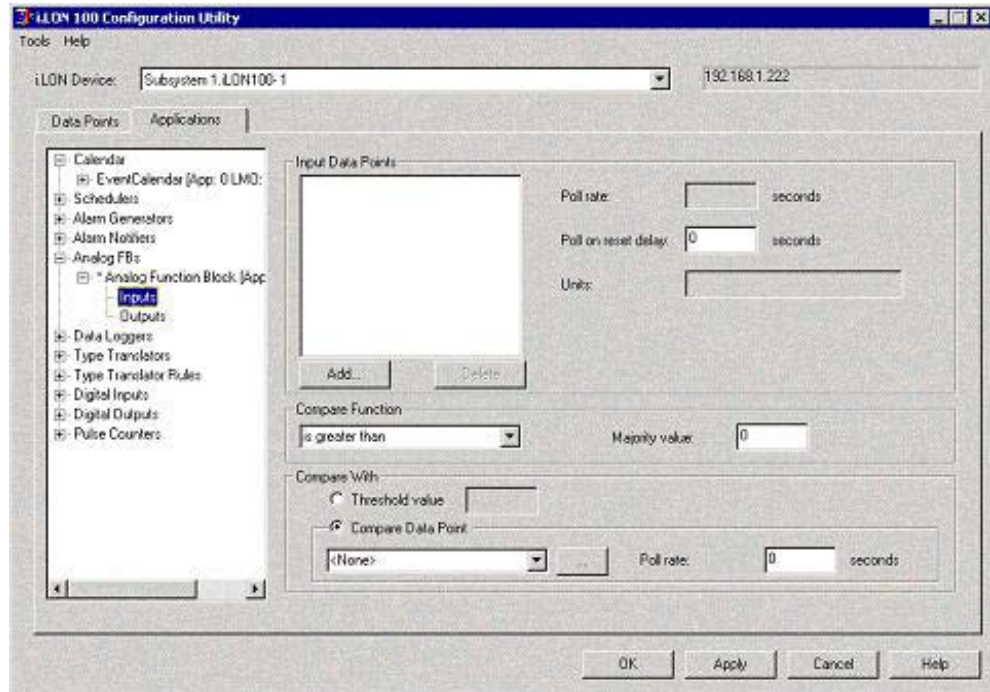

Figure 11.12 Inputs Dialog
1. Click **Inputs** under the analog function block on the Applications list. The **Inputs** dialog opens, as shown in Figure 11.12.